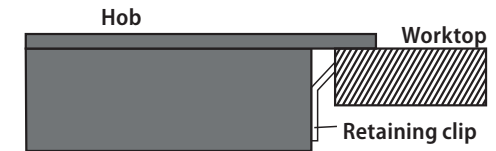

Fig. 10
12. Secure the hob in the required position from the bottom to the worktop with the supplied retaining clips (Fig. 10).